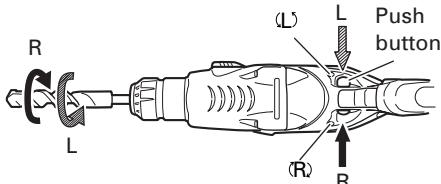

Fig. 6
- 9. Confirm the direction of bit rotation (Fig. 6)